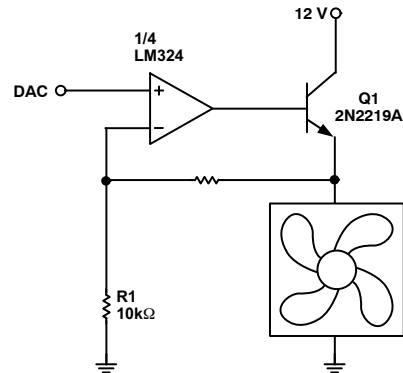
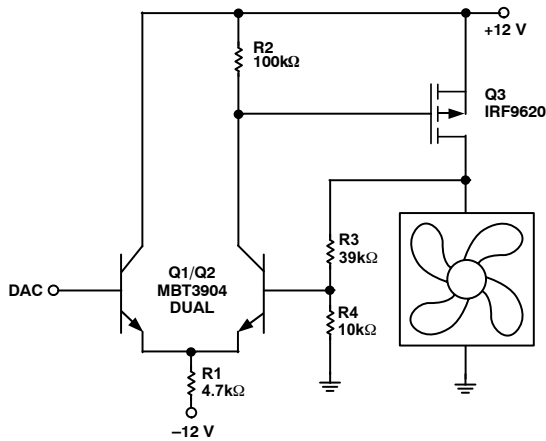

Figure 35. Fan Drive Circuit with Op Amp and Emitter-follower
Figure 39. Discrete Fan Drive Circuit with P-channel MOSFET, Dual Supply
Suitable fan drive circuits are shown in Figure 35 through Figure 39. When using any of these circuits, note the following:
- All of these circuits provide an output range from 0 V to almost +12 V, apart from Figure 35, which loses the base-emitter voltage drop of Q1 due to the emitter-follower configuration.